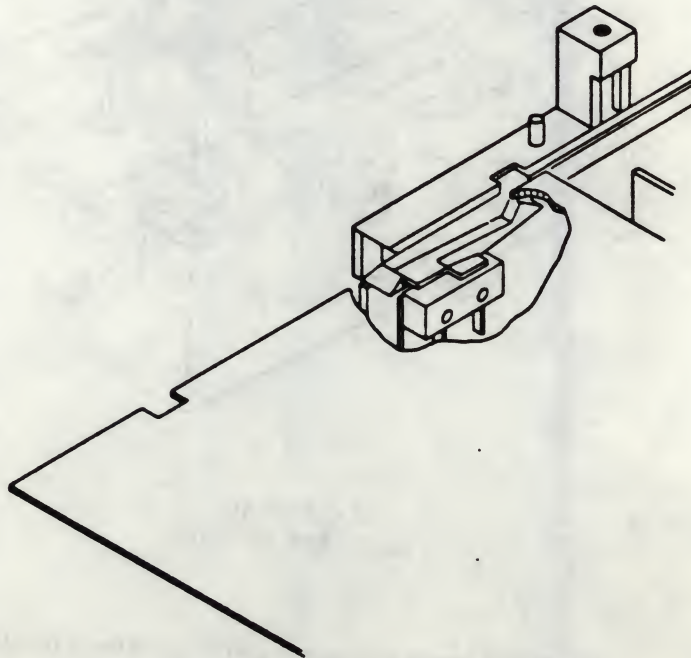

Figure 2-11
- 2.5.4 To adjust the write protect switch, loosen the screw that holds the switch to the bracket on the side farthest from the front of the disk drive. Move the switch up or down, as required, to satisfy the condition of Section 2.5.2 and Section 2.5.3 above (see Figure 2-11).